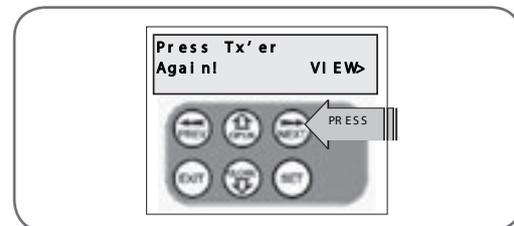

fig 48
4. Press NEXT to view transmitter parameters (Fig. 48). Used for quick navigation if the transmitter is available.